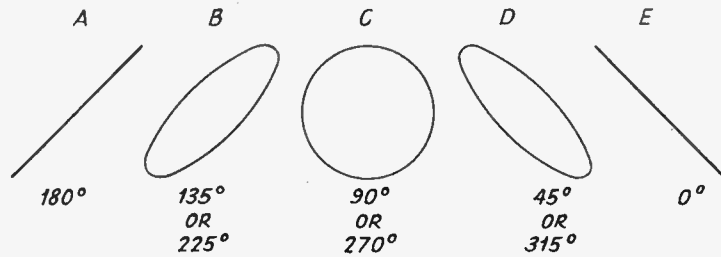

FIG. 1
When the phase difference between two voltages is to be measured one voltage is impressed on the horizontal and the other on the vertical deflection plates. They should be adjusted so that their deflection effects are equal, which is not necessarily the same as equality of the voltages. It can then be shown that figures such as those shown in Fig. 1 will be traced on the screen.
The figures illustrated in Fig. 1 are for the case of two equal effective voltages on the two sets of deflection plates. If the voltages are unequal the central figure will also be an ellipse but its axes will be vertical and horizontal. The straight lines will remain straight and the in-
Let $x = -E \cos \omega t$ be the voltage applied to the horizontal plates and let $y = E \cos(\omega t + \theta)$ be that applied to the vertical plates, where E is the amplitude, as seen on the fluorescent screen, ω the 2π frequency of the voltages, t the time, and θ the phase difference between the two. The minus sign is used with the horizontal deflection expression to account for the fact that the patterns are viewed facing the beam rather than looking with it. The signs agree with the patterns in Fig. 1, which have been observed experimentally.
If we let θ equal zero in this equation we get $(x + y) = 0$, which is an equation for a straight line with a slope of 135 degrees, as illustrated at the extreme right in Fig. 1. If we let θ equal 180 degrees we get $(x - y) = 0$, which is the equation of a straight line with a slope of 45 degrees, as shown at the extreme left in Fig. 1. If we let θ equal 90 or 270 degrees the equation reduces to $x^2 + y^2 = E^2$, which is that of a circle as illustrated in the center of Fig. 1. The equations for the ellipses are obtained from the general formula by substituting the indicated angles.
When one first examines the patterns in Fig. 1 one is likely to assume that the axes of the ellipses turn as the phase angle varies. This is not the case, as the equations clearly show. What happens is that the ellipse grows about an axis until it becomes a circle and then it diminishes again until it becomes a line. The process may be looked upon in another light. At left in Fig. 1 a plane circular figure is viewed on its edge. The circle then gradually rotates about a line in its original plane until the plane has been turned 90 degrees from the original position. At this instant the line of rotation is changed through 90 degrees. About the new axis the circle continues to rotate until it again is seen as a line. However, no matter in what way the change of the pattern occurs, equation (5) gives the phase angle difference between the two voltages impressed on the deflection plates in terms of two quantities measurable on the fluorescent screen.